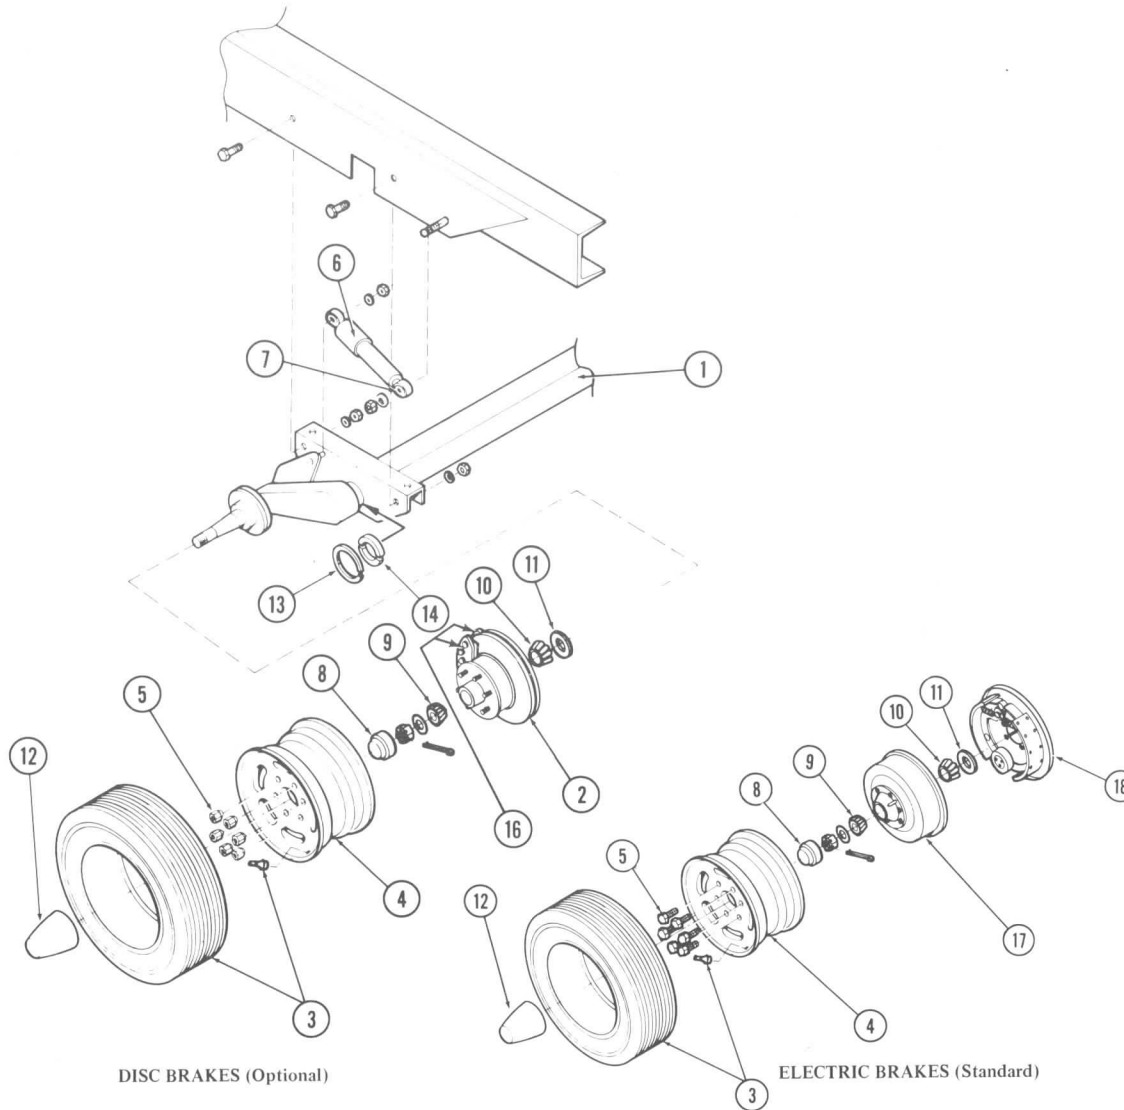

Fig. 10
7. Remove four (4) brake assembly bolts, brake lining, backing plate and two (2) spacers.
11. Remove hub and rotor assembly from spindle. (Fig. 10)